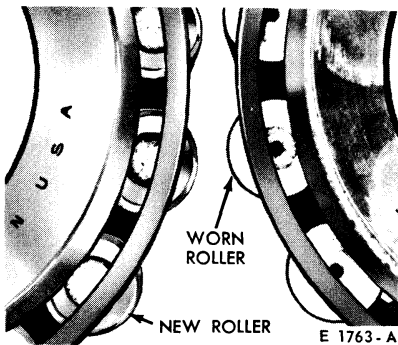

FIG. 7 Roller Bearing End Wear
12. Inspect the bearing races and rollers for pitting, galling, and erratic wear patterns. Inspect the rollers for end wear (Fig. 7).